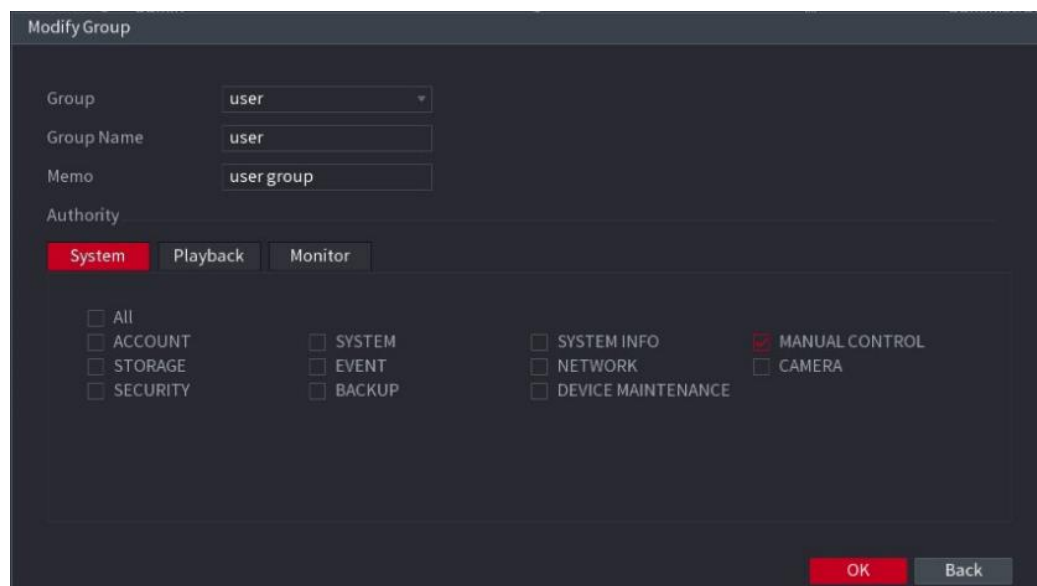

Figure 5-195
**Step 3** The **Modify Group** interface is displayed. See Figure 5-195.